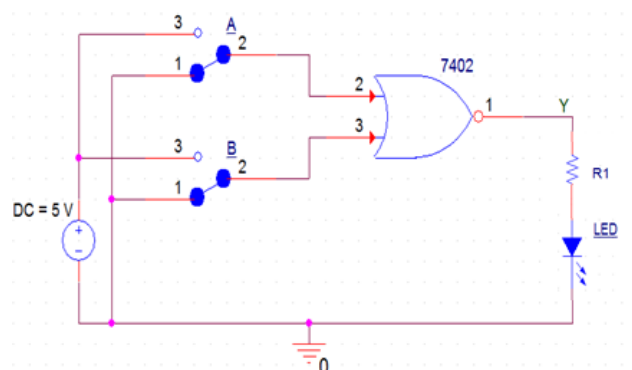

Figure 2.7 - Schematic of NOR gate
2. Figure 2.7 shows the schematic diagrams for this experiment.